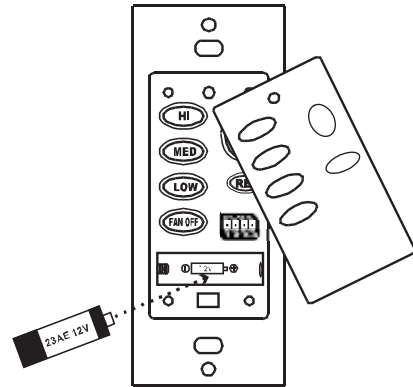

Figure 10
**NOTE:** Remove cover by snapping off from top or bottom. Install 12V battery into wall remote. Duracell MN21/Eveready A23/GP 23A all 12V. (Fig. 10)